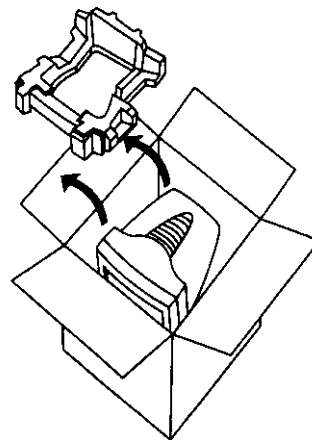

Figure 1
2. Remove the monitor from its shipping carton(see figure 1). Save the carton and packaging materials in case you need to relocate the monitor.